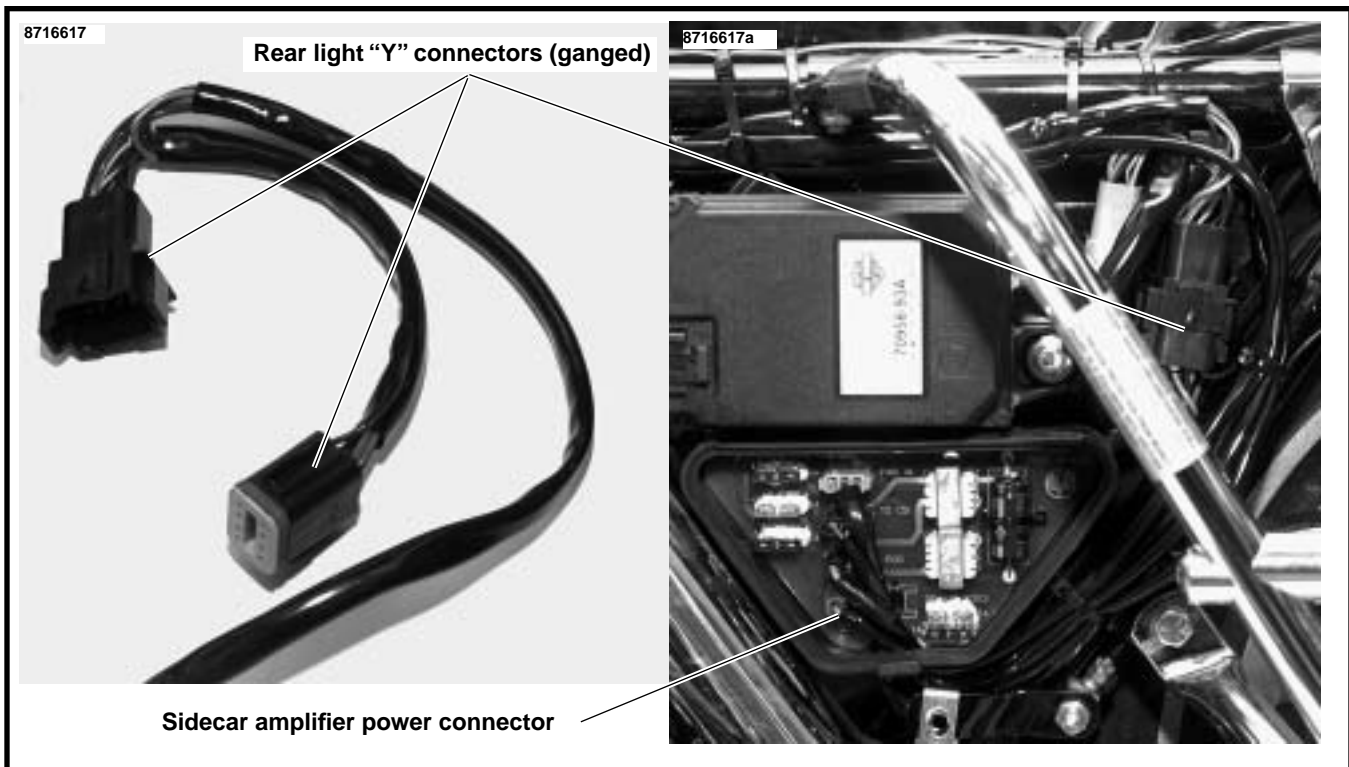

Figure 20. 1994 Sidecar/Motorcycle Rear Light Harness
1. See Figure 20. Route light harness in front of the battery, under frame member, over top of cruise control module on left side, to the motorcycle rear light harness. Disconnect the motorcycle rear light harness.